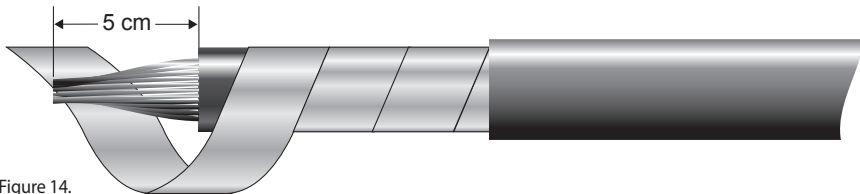

Figure 14.
2. Carefully unwind the copper tape to expose about 7 cm of the sheath underneath. Again, be careful not to damage the copper tape during this process. Measure 5 cm from the end of the cable and remove the black insulation section of the sheath over the aluminium conductors [Figure 14]. Note: There are many valid ways of removing this layer, but it is very important that the aluminium conductor strands are not scored or damaged in any way as this will decrease their strength and may lead to breakage when bending them for insertion into the crimp lug.